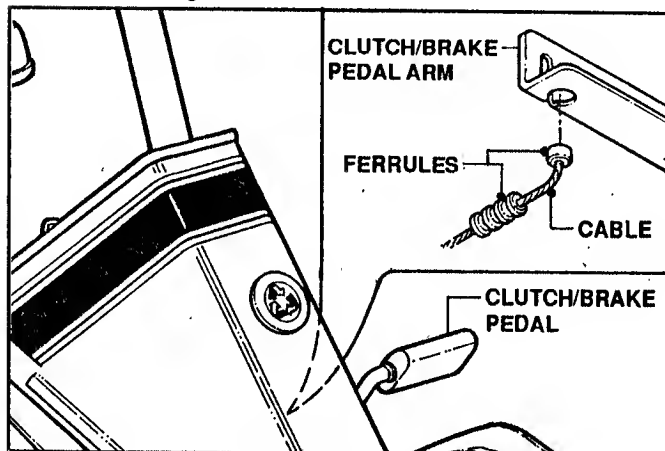

FIGURE 4.15
6. Pull clutch/brake pedal towards operator's seat and slide one ferrule from cable through the eye in the clutch/brake pedal arm. See Figure 4.15.